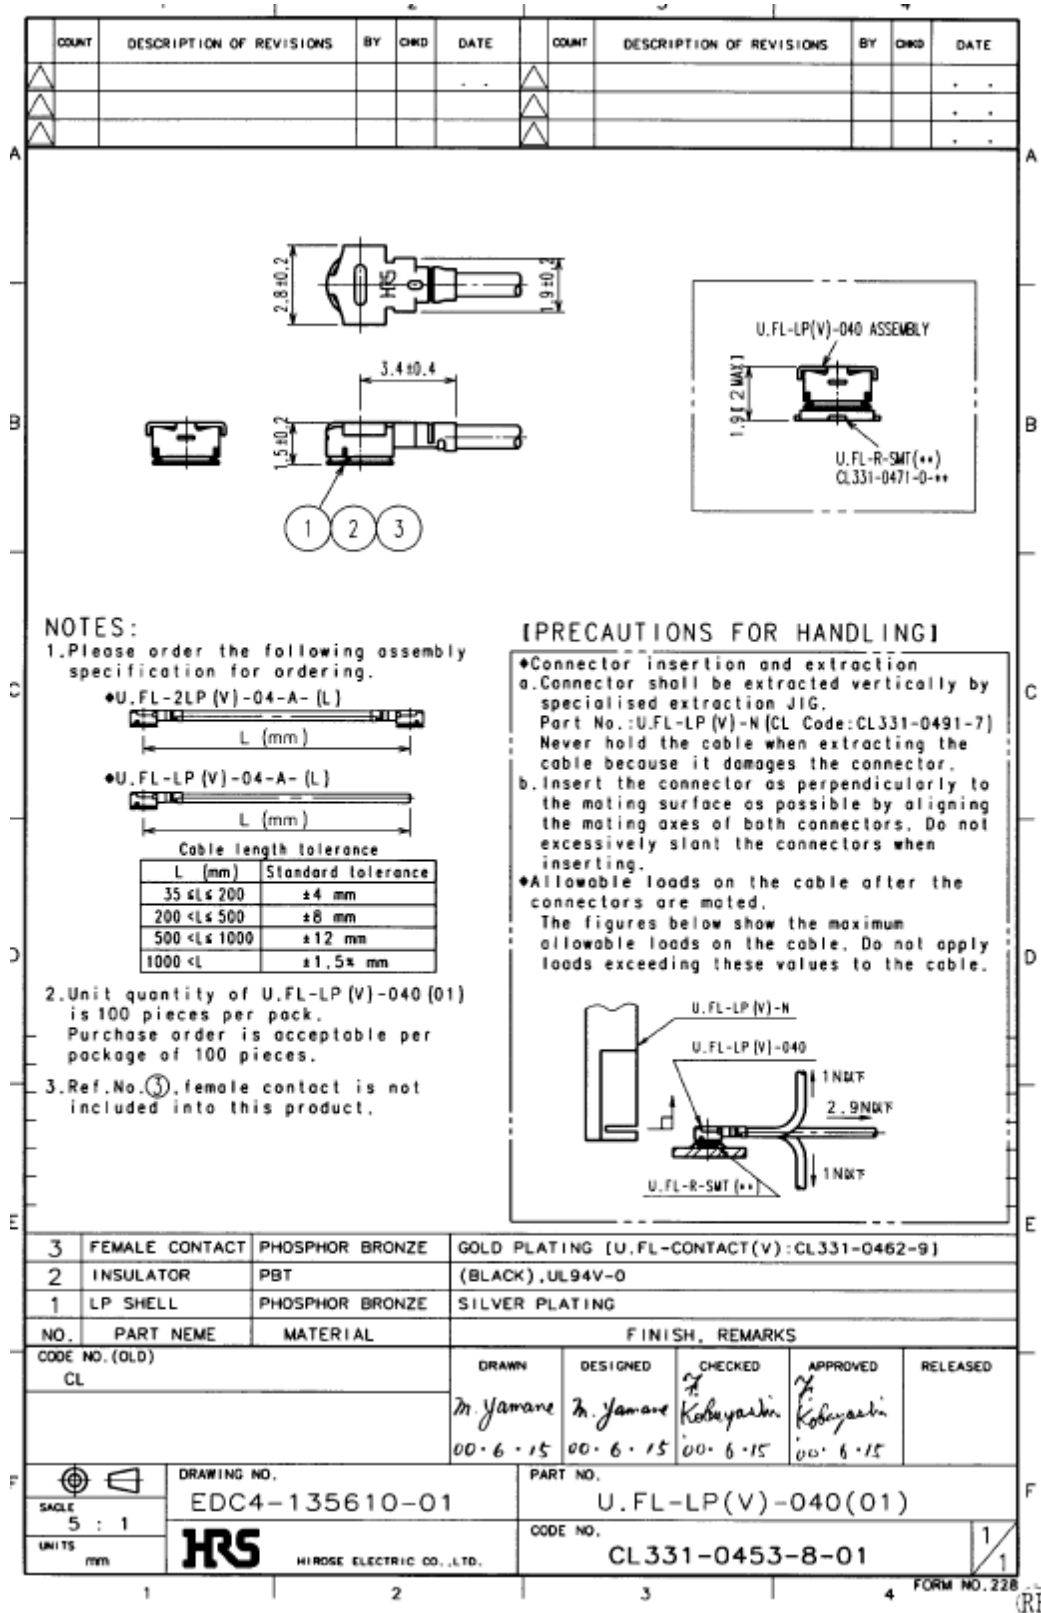

Figure 34: Specifications of U.FL-LP-(V)-040(01) plug
In addition to the connectors illustrated above, the U.FL-LP-(V)-040(01) version is offered as an extremely space saving solution. This plug is intended for use with extra fine cable (up to $\varnothing 0.81$ mm) and minimizes the mating height to 2 mm. See Figure 34 which shows the Hirose datasheet.